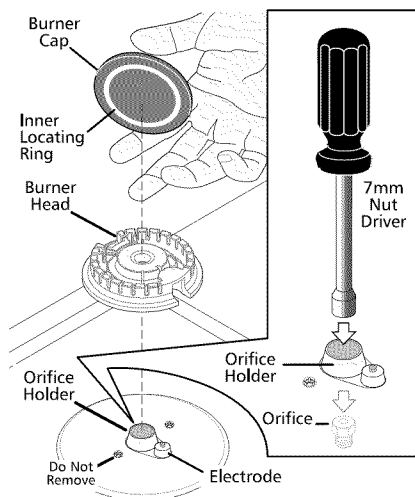

Fig. 6
- Remove 5 factory installed natural gas orifices from the center of the orifice holders using a 7 mm nutdriver (See Fig. 6).